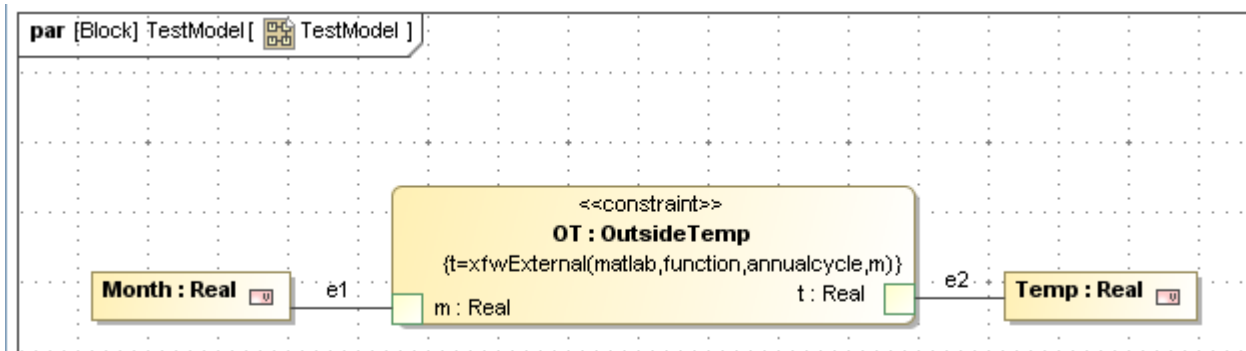

Figure 7.3 Parametric diagram for Outdoors
7. Create the parametrics diagram shown in Figure 7.3 inside the block Outdoors. The constraint block OY:OutsideTemp contains the MATLAB function `annualcycle`.